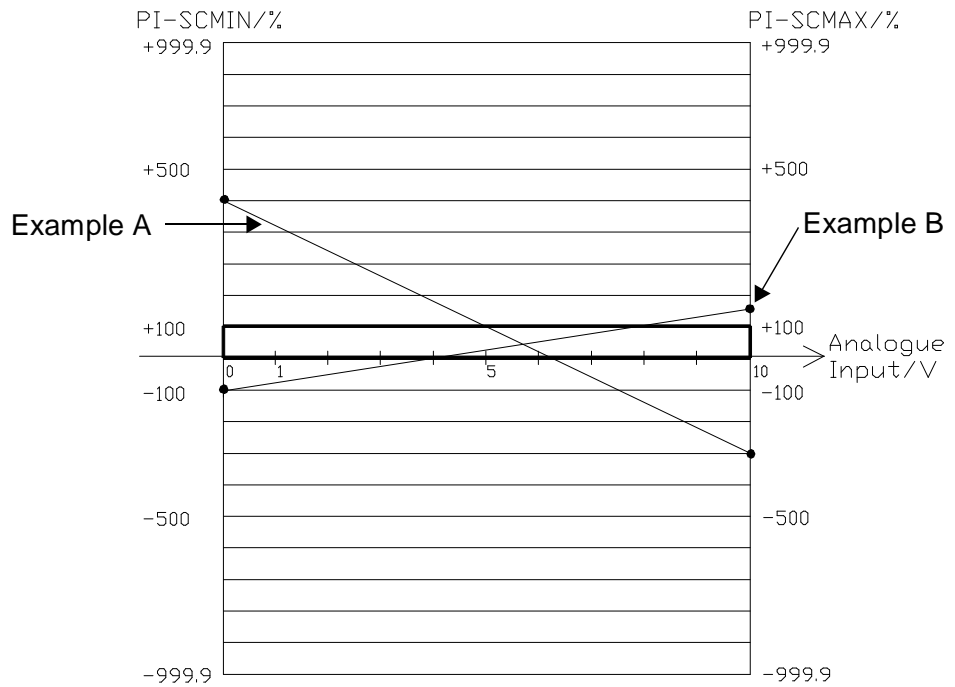
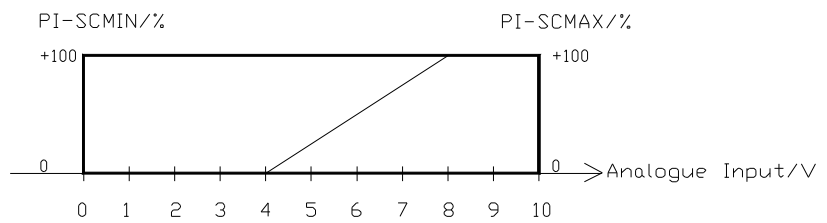

Figure 7-9 PI Controller, the scaling of actual value.
Figure 7-10 Operating range, example B.
- PI-SCMIN** Minimum scaling factor of the actual value. The setting range is -999.9 to 999.9 %. The value of PI-SCMIN can be higher than the value of PI-SCMAX. See the example A in Figure 7-9. In this example, PI-SCMIN is 400 % and PI-SCMAX is -300 %.
- PI-SCMAX** Maximum scaling factor of the actual value. The setting range is -999.9 to 999.9 %. See Figure 7-9 and Figure 7-10. In this example B, 4 V is equivalent to 0 % and 8 V is equivalent to 100 %. You can get the corresponding values for parameters PI-SCMIN and PI-SCMAX from the straight line in Figure 7-9. In the example B, PI-SCMIN is -100 % and PI-SCMAX is 150 %.